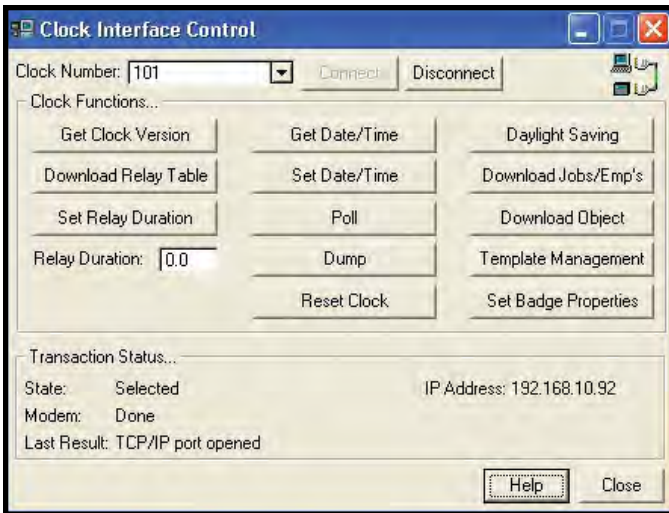

Figure 119. Out-of-the-Box™, Clock Interface window
- XII. Select the clock number that corresponds to your modem connection and click the “Connect” button. If a successful connection to the Smart Clock is established, the buttons in the window should become active (see Figure 119). If the buttons do not become active, review over steps I - IX or contact Technical Support.